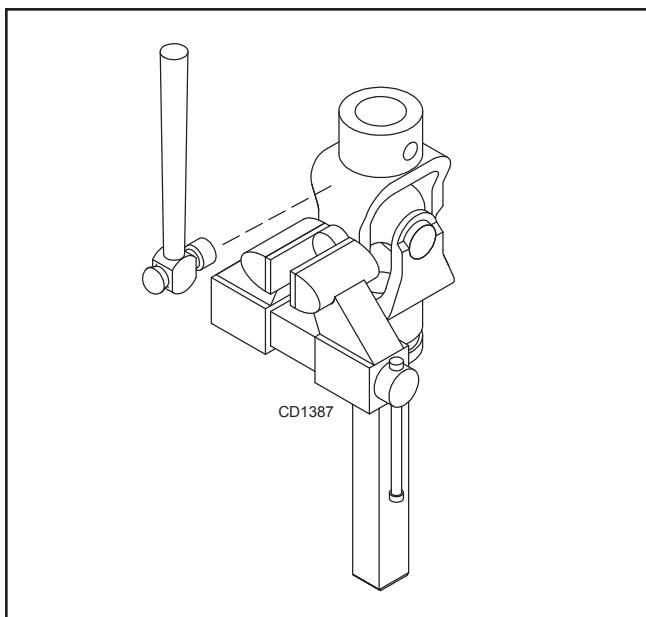

**Figure 27**
1. Remove external snap rings from yokes in four locations as shown in Figure 27.